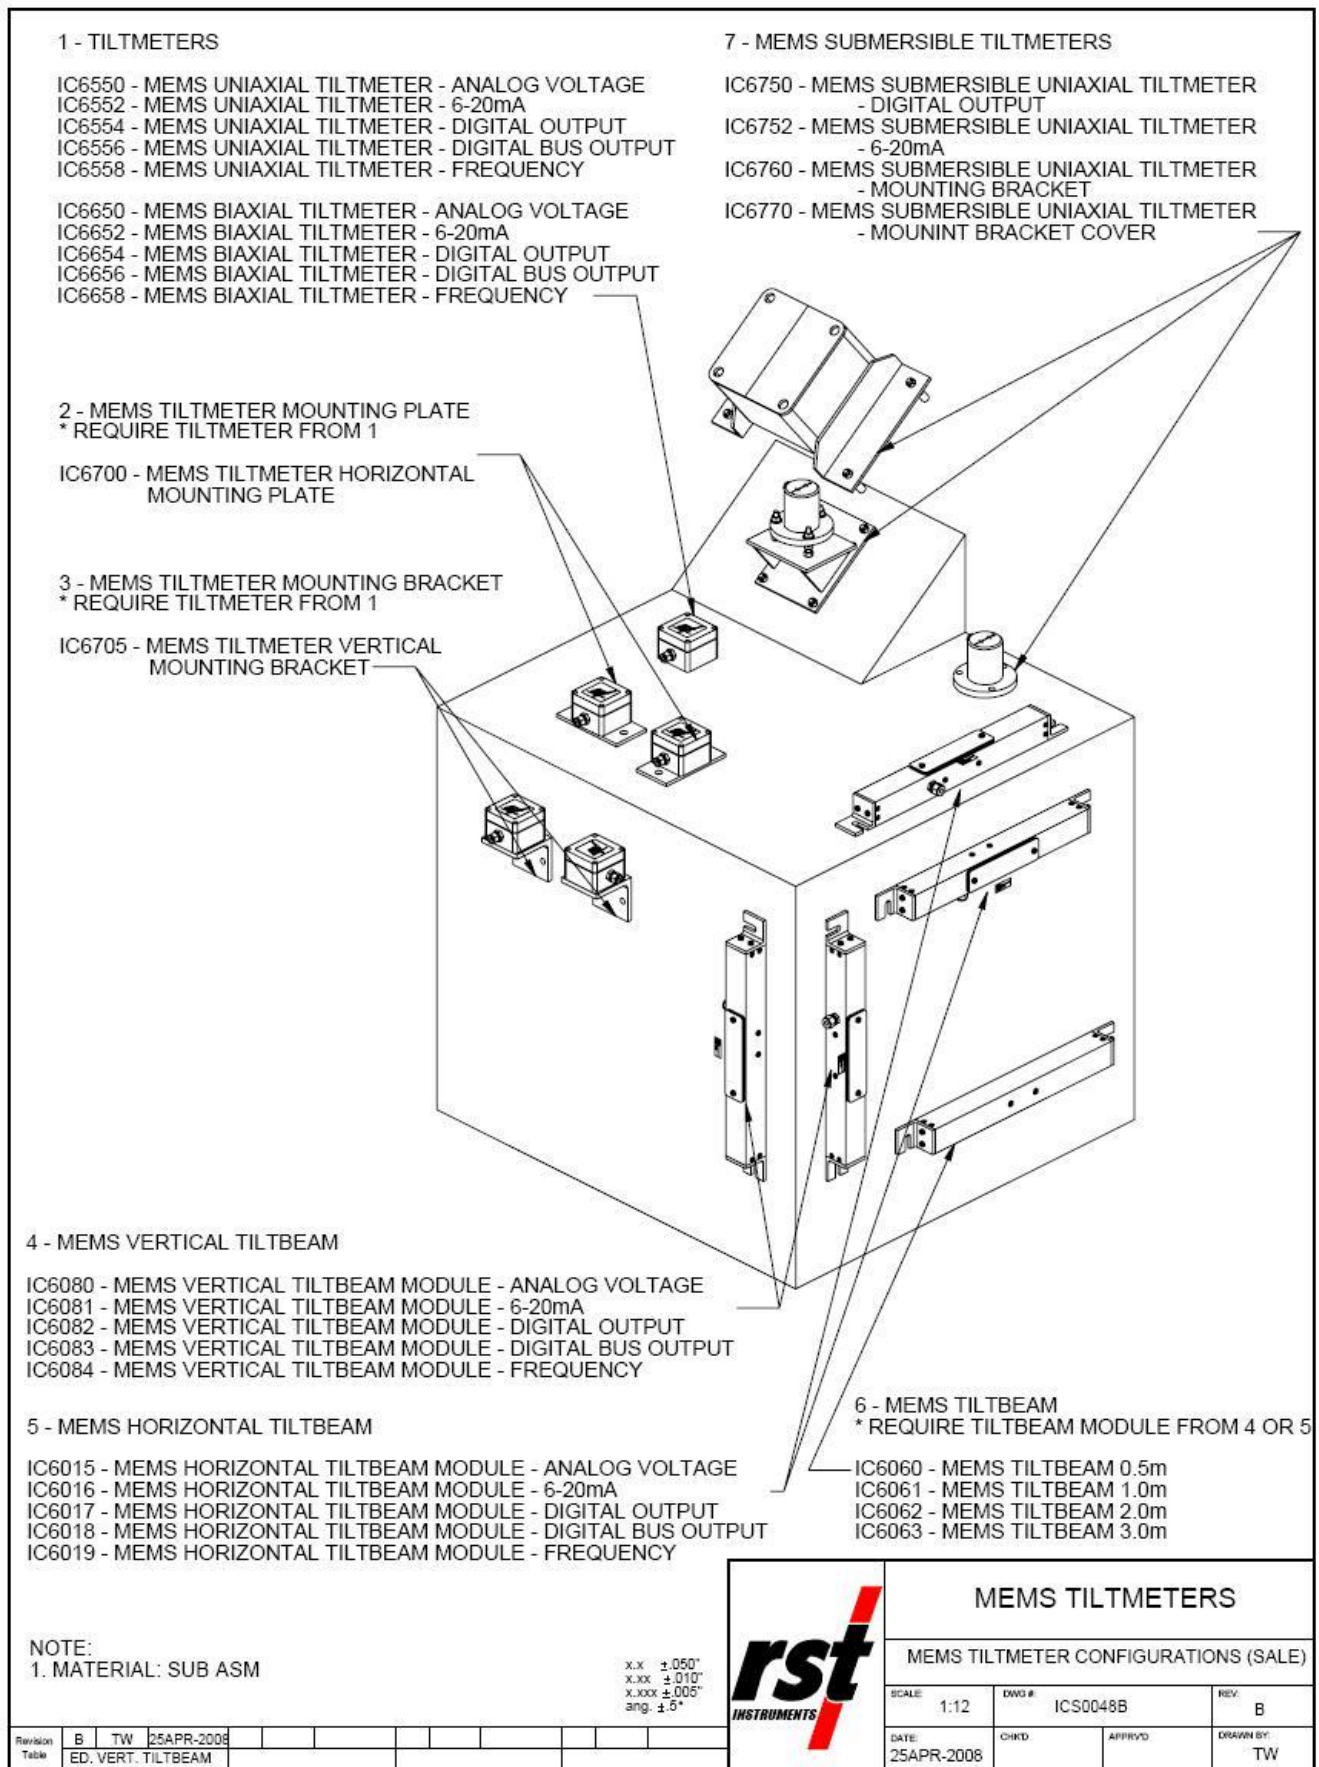
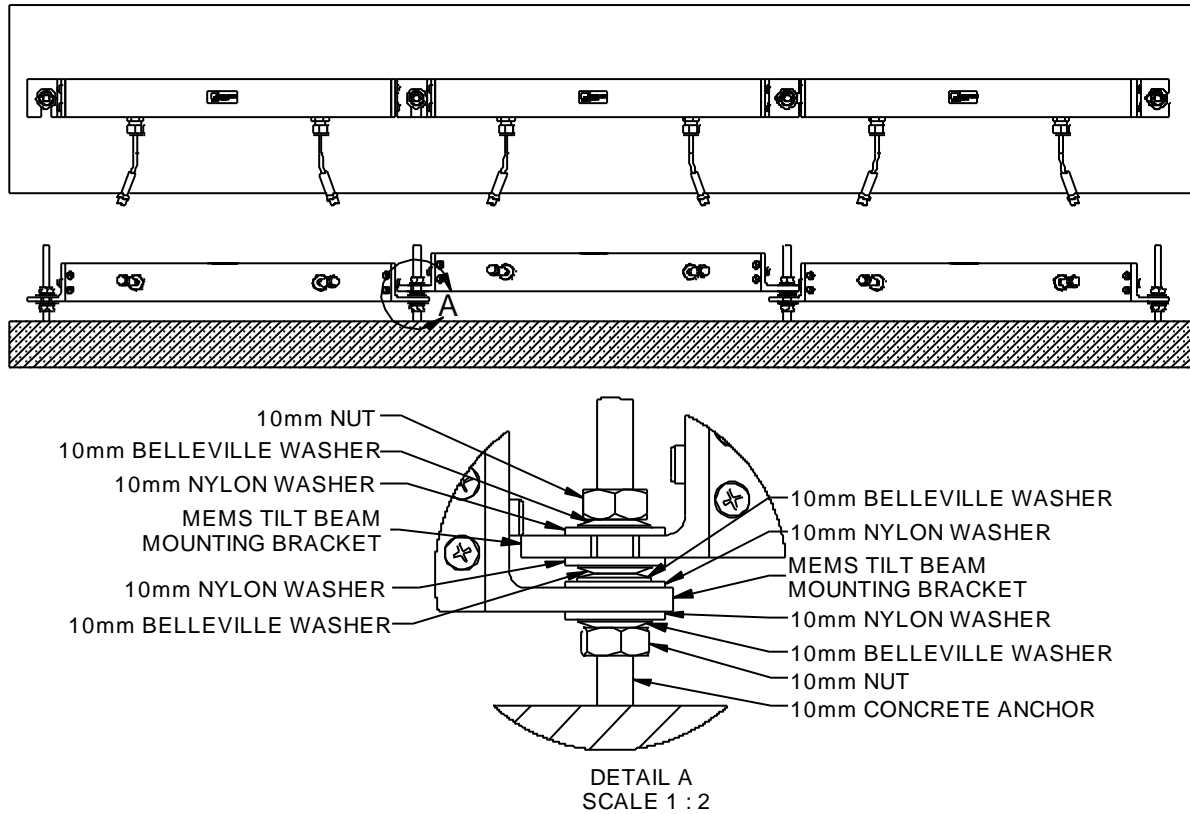

Figure 4: MEMSTilt Beam/Meter General Arrangement
Figure 6: Multiple Beam Configurations
Determine the MEMS Tilt Beam installation orientation (i.e. Is the Beam to be installed on the ceiling, wall, or floor). Refer to Figure 4 and adjust mounting brackets accordingly.
Determine the MEMS Tilt Beam installation orientation (i.e. Is the Beam to be installed on the ceiling, wall, or floor). Refer to Figure 4 and adjust mounting brackets accordingly. Ideally, the beams should be staggered (see Figure 6).
In either case, you should end up with a staggered installation as shown in Figure 6.
2. Place a Belleville washer over the 1st and 2nd anchors (see Figure 6)
10. Thread a 10mm nut onto the 3rd anchor (position nut so that the next beam when installed will be parallel to the previously installed beam (see Figure 6)
11. Place a Belleville washer and then a Nylon washer and Nylon Bushing over the nut installed in step 10 (see Figure 6 for orientation of washer)
12. Place a Belleville washer and then a Nylon washer and Nylon Bushing over the Belleville washer on the 2nd anchor (see Figure 6)
The beams when installed should be staggered and the washers and nuts should be installed as shown in Figure 6.